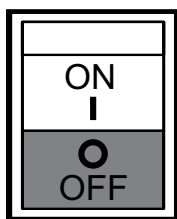

Figure 19. Idle Control Switch (OFF)
9. Place idle control switch (Figure 19) in the **OFF** position. This will allow the engine speed to run at about 3600 RPM's.
Placing the idle control switch in the **OFF** position (Figure 19) allows the engine to operate at a maximum speed of about 3600 RPM's.